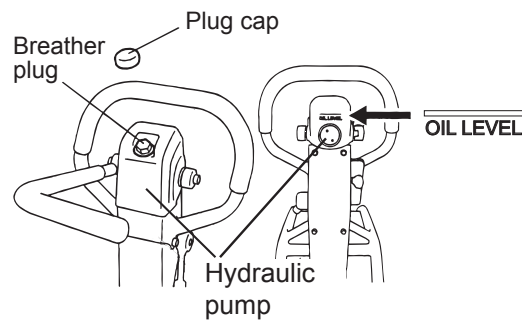

Figure 31. Removing Plug/Breather Cap
1. With the handle in vertical position, remove the plug cap from the hydraulic pump (Figure 31).
- Pour hydraulic oil (550 cc) to the hydraulic pump breather plug attachment hole (Figure 31).